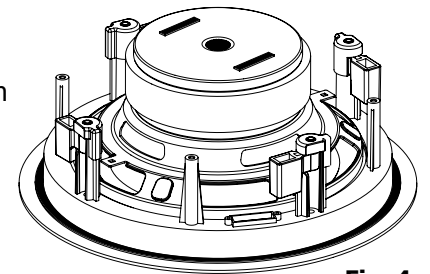

Fig. 4
3. Place a strip of thin adhesive-backed foam around the backside of the mounting flange of the subwoofer along with two short strips on the back of the magnet assembly as shown in **Fig. 4** on page 7.
For subwoofer applications, it is suggested that you place a strip of thin adhesive-backed foam around the backside of the mounting flange along with two short strips on the back of the magnet assembly as shown in **Fig. 4**.